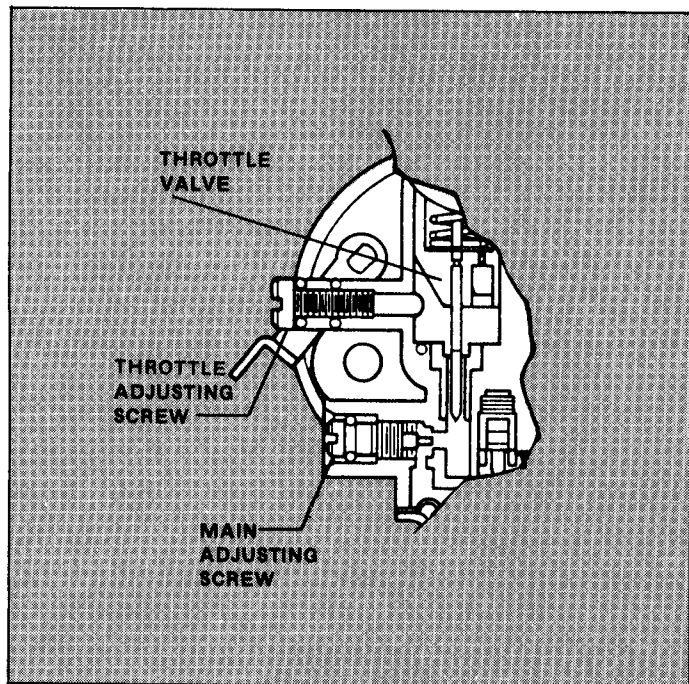

FIGURE 3.5
1. Throttle Valve and Throttle Adjusting Screw engine idling, adjust engine to desired RPM's with the throttle adjusting screw (stop screw). See Figure 3.5.